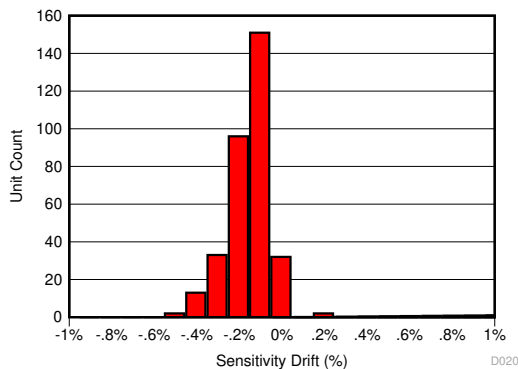
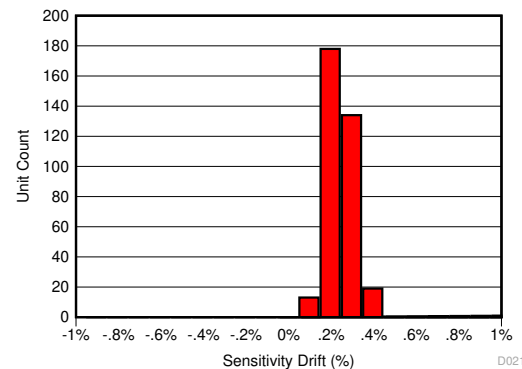
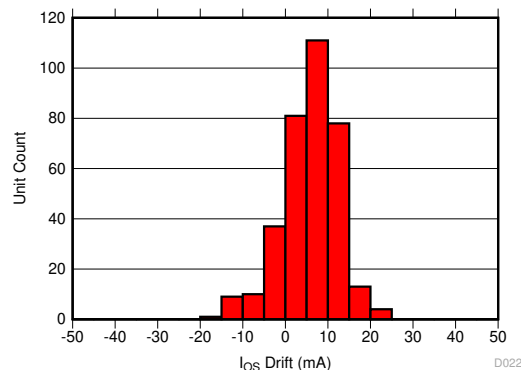

Figure 9-4. Sensitivity Error After 130°C, 85% RH HAST
Figure 9-5. Sensitivity Error Drift After AEC-Q100 High Temperature Operating Life Stress Test
Figure 9-6. Input-Referred Offset Drift After AEC-Q100 High Temperature Operating Life Stress Test
The same compensation techniques used in the TMCS1100-Q1 to reduce temperature drift also greatly reduce lifetime drift due to aging, stress, and environmental conditions. Typical magnetic sensors suffer from up to 2% to 3% of sensitivity drift due to aging at high operating temperatures. The TMCS1100-Q1 has greatly improved lifetime drift, as defined in the Electrical Characteristics for total sensitivity error measured after the worst case stress test during a three lot AEC-Q100 qualification. All other stress tests prescribed by an AEC-Q100 qualification caused lower than the specified sensitivity error, and were within the bounds specified within the Electrical Characteristics table. Figure 9-4 shows the total sensitivity error after the worst-case stress test, a Highly Accelerated Stress Test (HAST) at 130°C and 85% relative humidity (RH), while Figure 9-5 and Figure 9-6 show the sensitivity and offset error drift after a 1000 hour, 125°C high temperature operating life stress test as specified by AEC-Q100. This test mimics typical device lifetime operation, and shows the likely device performance variation due to aging is vastly improved compared to typical magnetic sensors.